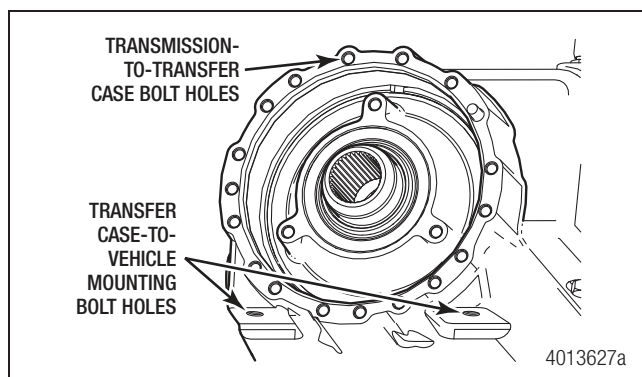

Figure 8.1
3. Install the transfer case into the vehicle with the mounting bolts. Tighten the bolts to the torque specification supplied by the vehicle manufacturer. Figure 8.1.